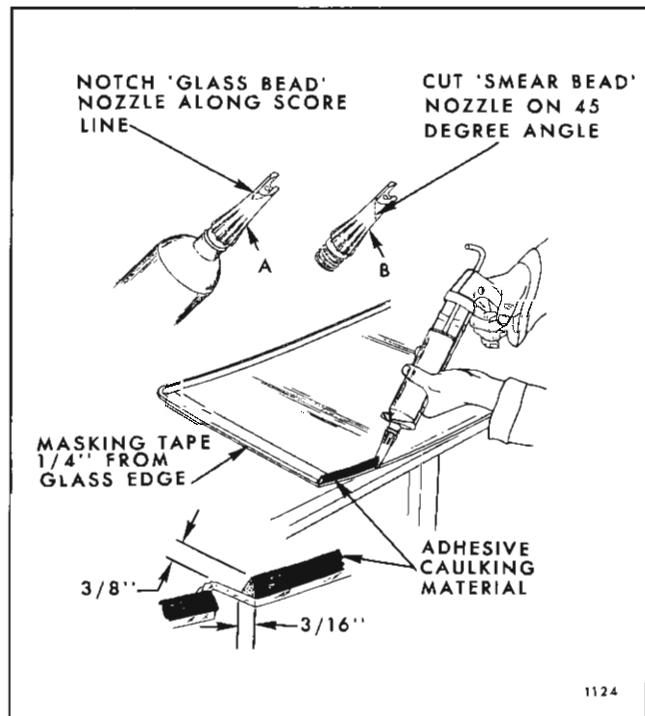

Fig. 1C12—Adhesive Caulking Installation—Extended Method
4. Clean entire inner surface of glass, carefully apply 1" wide masking tape around entire perimeter of inside surface of glass $1/4$ " inboard from outer edge of glass to eliminate excessive clean-up time after installation (Fig. 1C12).
7. Cut off tip of one nozzle along score line (Fig. 1C12). This nozzle will be used to apply bead of adhesive caulking material to glass. Cut tip off other nozzle at 45° angle 1" below end of nozzle. This nozzle will be used to apply "smear bead" of adhesive caulking material to pinchweld flange.